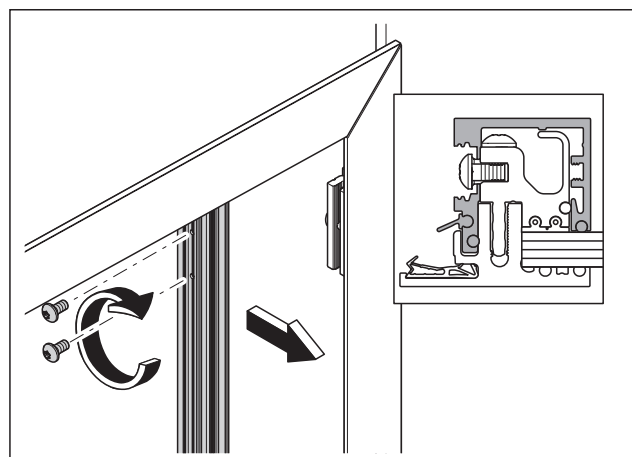

Fig. 48 Attach and fix the cover profiles for the door frame from the viewpoint of the opposite side to the hinge.
5. Attach and fix the vertical cover profile for the door frame with the strike plate (Fig. 48).